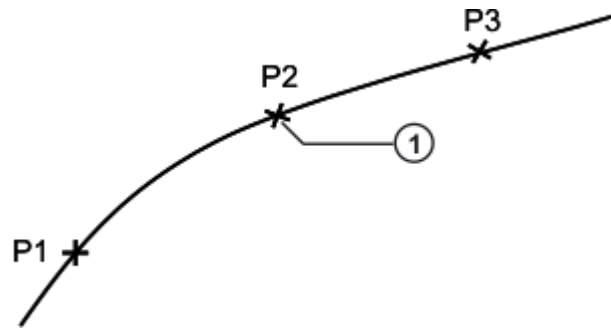

Fig. 7-7: Example motion for logic
Signal-dependent wait functions can be programmed with or without processing in the advance run. **Without advance run** means that the motion will always stop at the point and that the signal will be checked there: (1) (>>> Fig. 7-7). In other words, the point cannot be approximated.